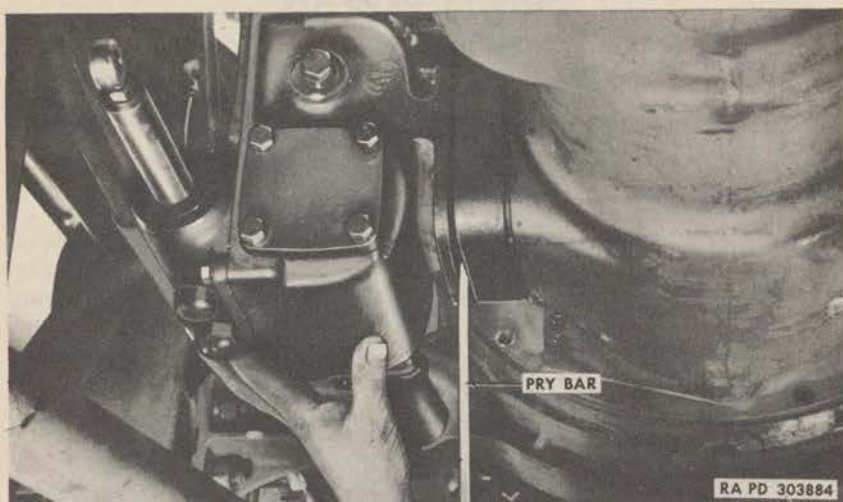

Figure 169—Removing Power Take-off
e. **Remove Power Take-off Assembly.** Remove the stud nuts and lock washers holding the power take-off on the transmission, and remove the power take-off assembly. Use a pry-bar or chisel to pry the unit off the studs (fig. 169).